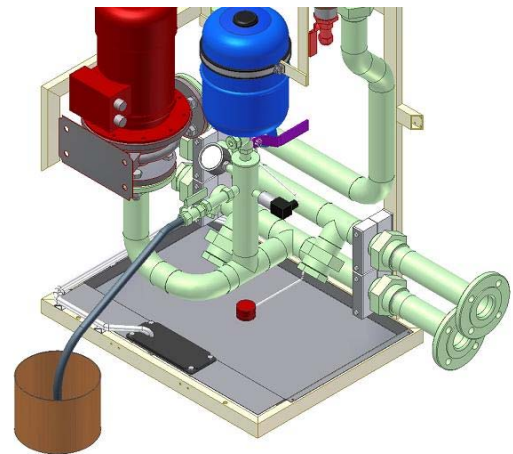

Figure 4.2-5
2. Place an eight (8) litre jar under the valve (if the expansion vessel air nozzle or membrane is broken there might be up to 8 litres in the vessel).
3. Turn the lever (marked violet in Figure 4.2-5) on valve V160 90° so that it points away from you (points to the back wall). This will close off the primary circuit and therefore only the liquid in the expansion vessel will come out. (There is line mark in the end of the stem, where you can also ensure the right position of the 3-way valve. This mark shows the open flow direction.)